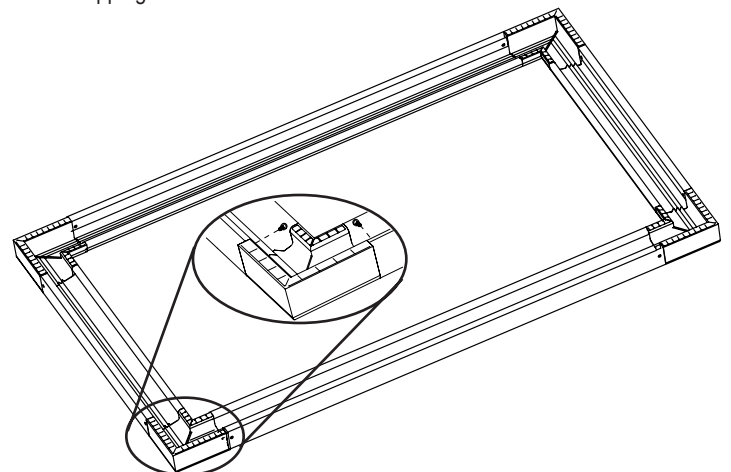

Figure 5
- ② Check to verify that all four (4) plastic corners are seated securely in aluminum frame extrusion lengths (see Fig. 5). Lock in place using eight (8) self-tapping screws .